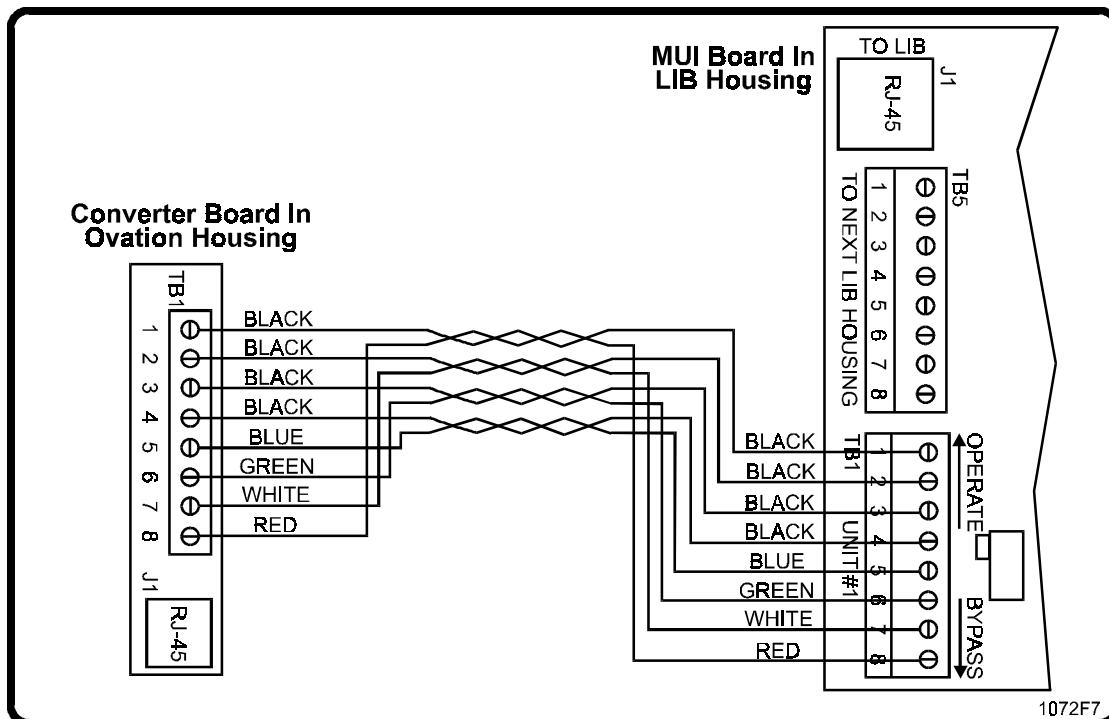

Figure 7. Multiple Entrance Ovation Controller Cabling.
- a. **A 4 twisted pair cable** from the Ovation Controller to the MUI located in the first LIB housing, as shown in Figure 7. This cable can be up to 2500 feet in length. Each additional Ovation controller must be wired to the corresponding unit number on the MUI.